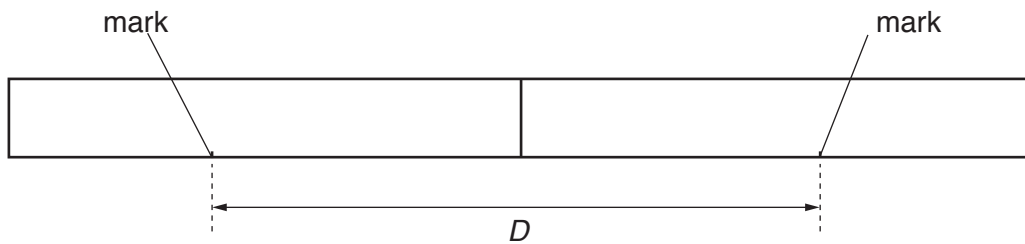

Fig. 2.2
- (iv) Measure and record the distance D between the marks, as shown in Fig. 2.2.